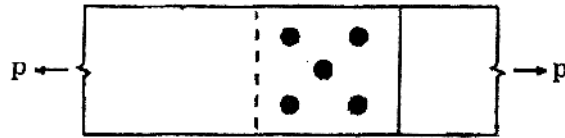

Figure Q. 11 (a)
11. (a) Find the efficiency of the lap joint shown in Figure Q. 11 (a). The bolts are 20 mm dia. of grade 4.6. The main plates are 10 mm thick. Take pitch as 50 mm and end distance as 40 mm.